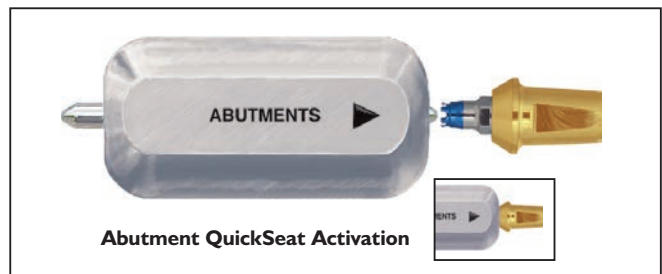

Figure 3
- **Abutments:** Insert the abutment onto the pin, fingers first and slide inward until the platform meets the tool (Figure 3).